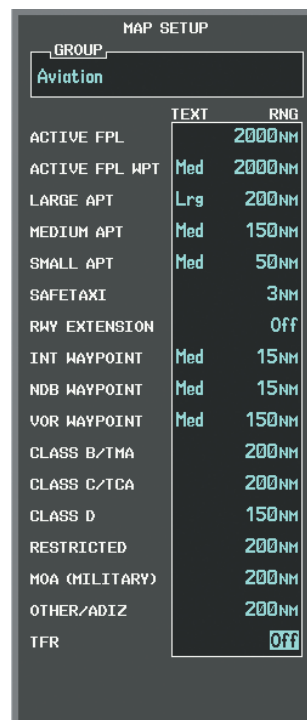

Figure 6-91 Navigation Map Page Setup Menu, Weather Group
- 5) Turn the large **FMS** Knob to scroll to the TFR product range setting (Figure 6-91).